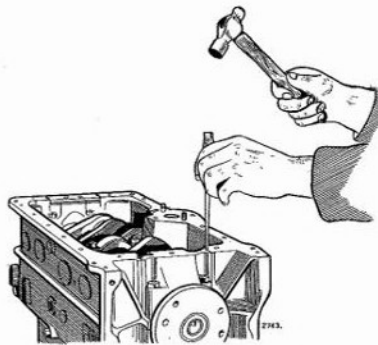

Fig. B.51. Packing the crankshaft rear main bearing cap grooves with felt
10. Pack felt into the grooves in the rear main bearing cap and the front main bearing cap base, cutting the felt into short strips and tapping them into the grooves tightly with a suitable rod (see Fig. B.51).